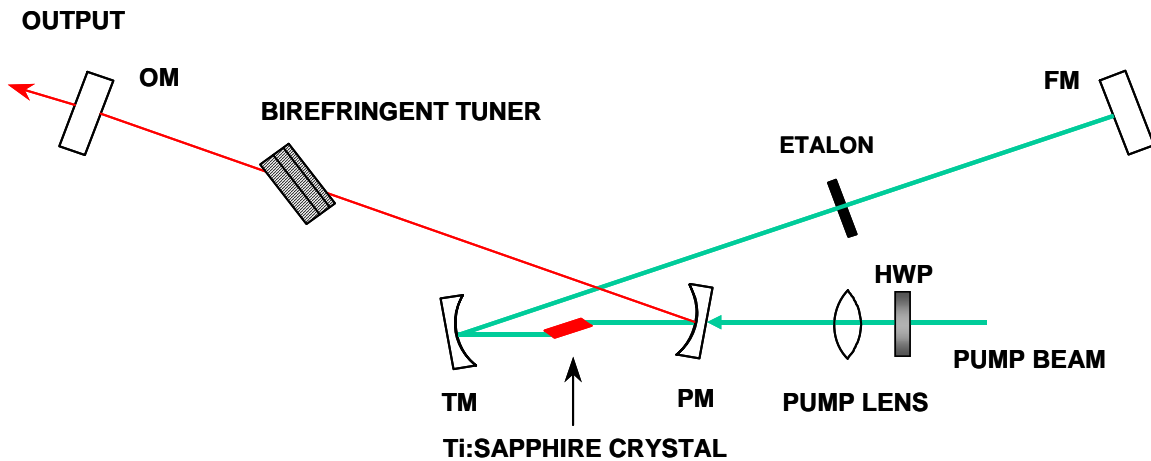

Figure 4. Pump-beam path and mirror designations.
Figure 4 shows the path of the pump beam through the Titan-CW laser cavity. Following Figure 4, we refer to the four mirrors in the Titan-CW laser cavity as the pump mirror (PM), turning mirror (TM), flat mirror (FM) and the output mirror (OM). The PM, TM and FM all have highly reflective coatings at Titan-CW laser wavelengths and highly transmissive coatings for the argon-ion laser wavelengths in the range 488-515 nm. However, there is enough reflection at the pump wavelengths to observe the pump beam after it has passed through the FM, and this condition is used as an aid in alignment. All Titan-CW lasers are shipped with a marker indicating the correct reflected pump beam position behind the FM. For the Standard laser a special alignment part is placed behind
The following steps outline the alignment procedure for the Titan-CW laser. It is included to provide the experienced user with additional information that may be of use when altering intracavity components and otherwise modifying the laser. Please refer to Figure 4, above, for reference to the component mentioned below.
Replacing the cavity mirrors with a set for an adjacent band is accomplished by first tuning an operating laser to a wavelength in which both mirror sets are capable of operation (the overlap region) and then replacing mirrors one at a time, carefully restoring the cavity alignment each time a new mirror is installed. We recommend that when changing between the short-band and long-band mirror sets you install the mid-band set as an intermediate process. If you were not involved in the installation of the Titan-CW laser, we suggest that you read over Section 4 in order to become familiar with the details of Titan-CW laser alignment and the terminology involved. Figure 4 shows a diagram of the Titan-CW laser-cavity layout. You should then follow the steps below: